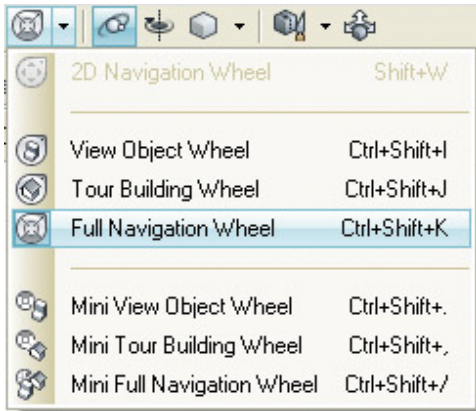

Figure 3
1. Click the pull-down arrow next to the SteeringWheels button on the main toolbar and select Full Navigation Wheel from the menu. (Figure 3)